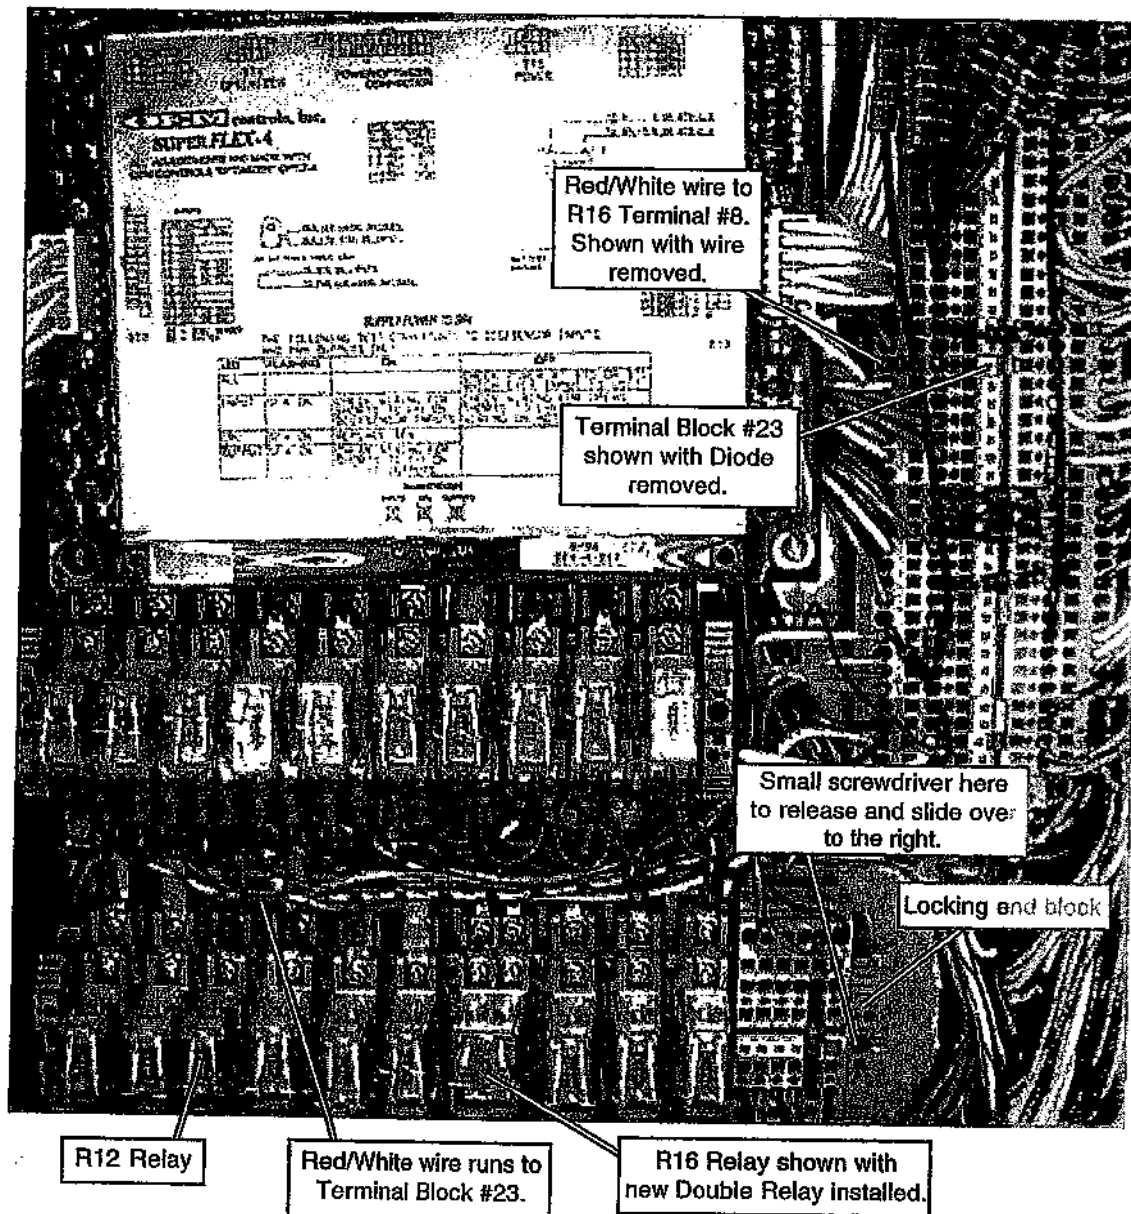

Figure 1
11. Locate R16 relay inside lower control box (bottom row 7th from left) and remove from socket. This will eliminate the need to re-identify the relay socket in the following steps. See Figure 1.
12. Loosen the din rail locking end block located on the right side of the relays and terminal blocks, using a small flathead screwdriver in the center hole, and slide the terminal blocks and relays (from the R16 relay) over to the right end of the din rail without sliding off. See Figure 1.
15. Locate terminal block #23 (See Figure 1). Remove and discard the diode by inserting a small seal pick into the square holes between the diode wires. Remove the Red/White wire on the *left* side of same terminal block #23 in the same manner. The Red/White wire on the *right* side of the same terminal block will remain.